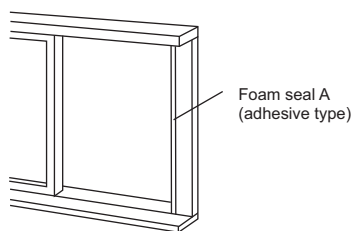

Fig. 12
1. Trim foam seal (with adhesive) to the proper length and attach to window frame (Fig. 12).